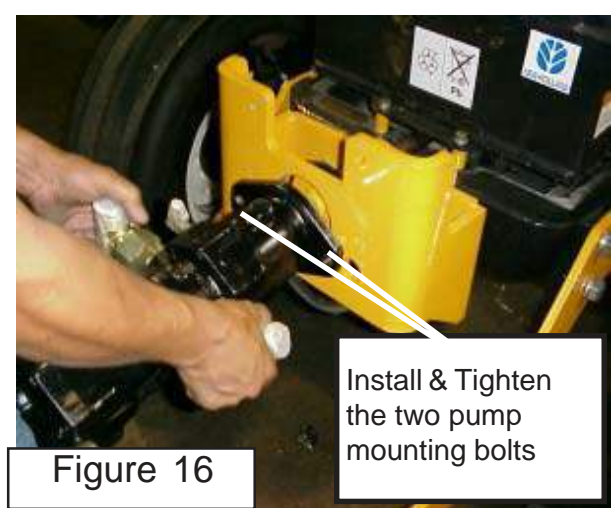

Figure 16
15. Install Pump Retaining bolts. The pump retaining bolts are to be installed by hand. The pump should be seated into the opening provided in the pump mount weldment for the pump flange ring (See Figure 16). Install the two pump mounting bolts and tighten them. DO NOT use the bolts to force pump flange into the pump mount weldment, if you do you will break the flange ears off of the pump. If the pump will not go by pushing it in take the pump out and check the opening for excess paint or burrs. The pump must be installed with suction to LH side.
10. Connect Tilt Cylinder to Mower Deck. The Tilt Cylinder connects to the mower head (See Figure 15 & 16). Note you will need to remove the belt guard to connect this cylinder so you will have room for the cylinder mounting pin to be installed (See Figure 16). When connecting the cylinder the grease fitting on the rod end must face up, the locking collar on the cylinder must face up and be tightened on rod end. The RH Wing and the LH Wing will mount the same. Install the RH wing the same as the LH wing . Reinstall Belt Guard.